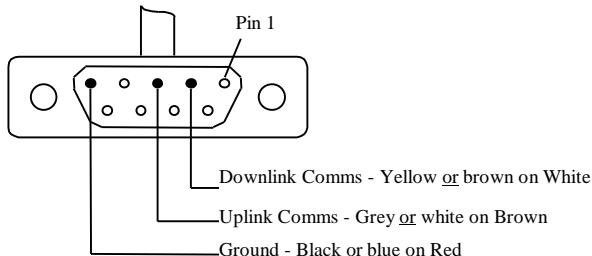

Figure 40. STMON PC Connection
1. STMON communicates via the PC RS232 com port which connects to the ST drop cable. The PC may be attached to the Junction Box, PSU or survey tool with a cable terminated at the PC end as in Figure 40.